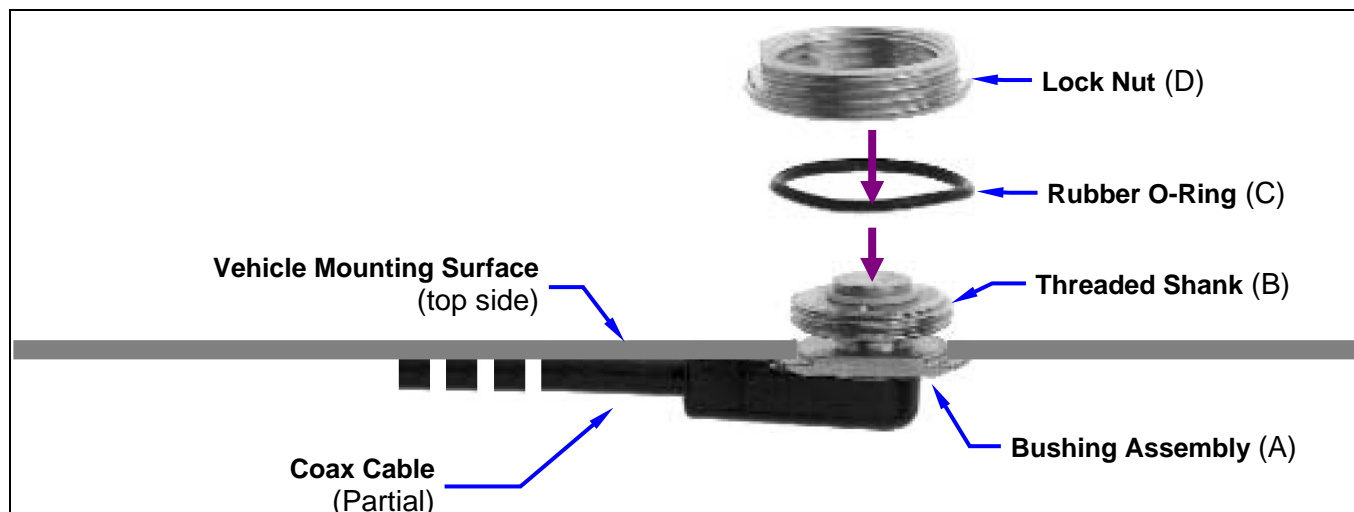
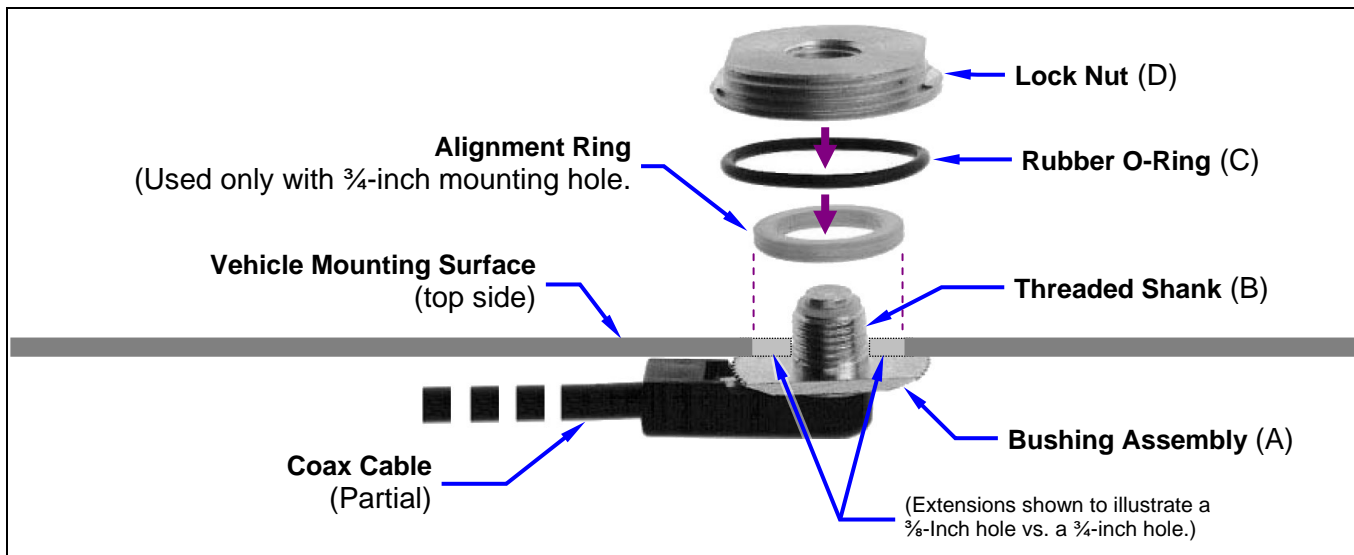

Figure 6-3: Installing a Standard 3/4-Inch NMO Antenna Mount
Figure 6-4: Installing a Thick-Roof NMO Antenna Mount
11. As illustrated in Figure 6-3 and Figure 6-4, add the O-ring (C) and lock nut (D) to the top of the mount’s bushing assembly (A). With the O-ring in the groove in the underside of the lock nut, thread the lock nut onto the bushing assembly. Be sure the O-ring remains in the groove before tightening the lock nut.
2. Place the gasket included with the antenna element (not pictured in Figure 6-3 or Figure 6-4) around the mount and against the surface of the vehicle. If a lubricant or sealant was included with the gasket, apply it to the gasket before placing the gasket.